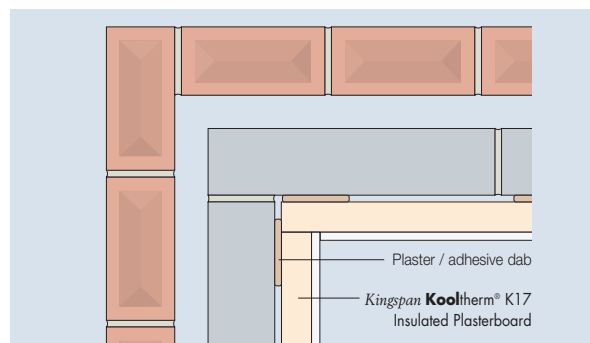

Figure 8 – Internal corner detail
- For internal and external corners, sheets should be cut and rebated to allow a plasterboard / plasterboard joint at the angle (see Figures 8 & 10).
- For internal and external corners, ensure sheets are lightly butted and air gaps minimised to reduce the risk of cold bridging (see Figures 8 & 10).